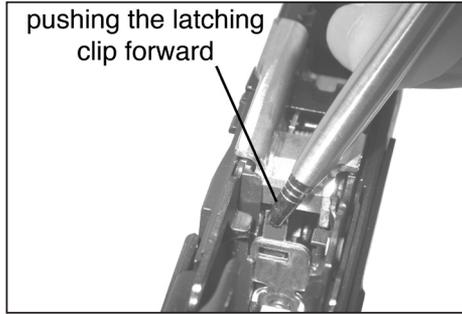

Figure 47 – Pushing the latching clip forward (punch or pen can be used)
1. With the pistol disassembled and the slide removed, push the latching clip in the pistol grip frame forward with a punch or pen (Figure 47).